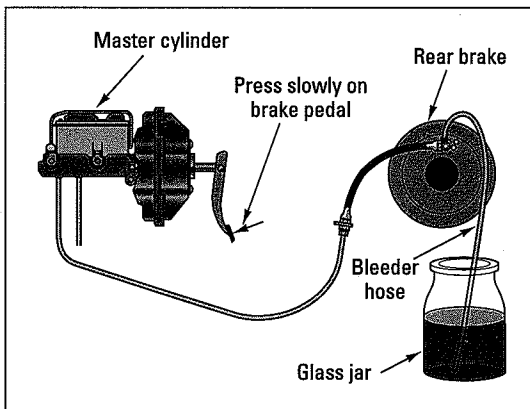

Figure 18-15:
- 4. Have your friend pump your brake pedal a few times (see Figure 18-15).**